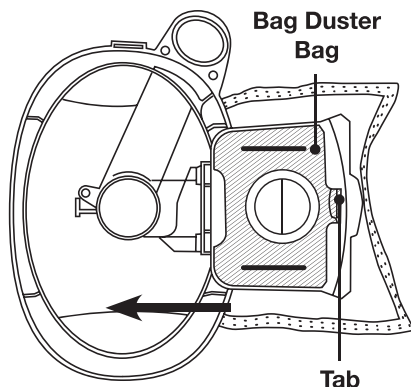

Fig 19
3. Holding the **HEPA** Dust Bag in your hand, slide it out from the slots in the bag holder. Hold carefully in order to avoid having dust fall out of **HEPA** Dust Bag. (Fig.19)